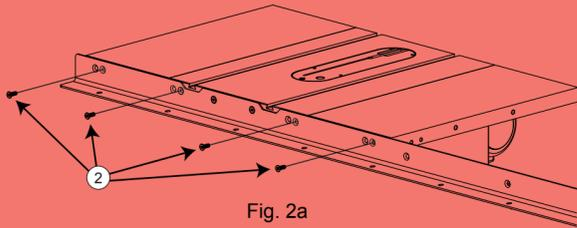

Fig. 2a
• Take four more M8 x 25 countersunk socket head bolts (2) and insert them through the four open holes in the front rail and table (see Fig. 2a).